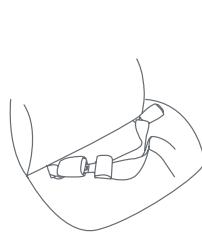

Fig. 41-2
5. Buckle the seat belt being careful that the seat belt is not twisted and is securely latched into the appropriate buckle, and not the adjacent buckle (Fig. 41-2).